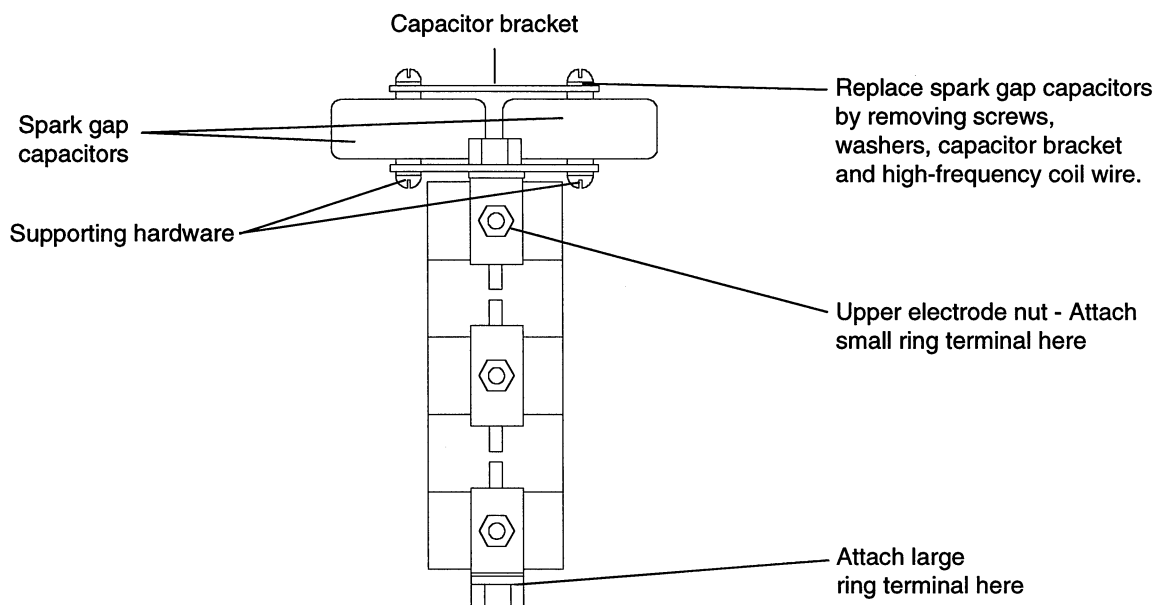

Figure 4 Spark Gap Assembly Connections and Capacitor Replacement
- Twist the wires on the secondary side of the transformer 2 turns and attach the large ring terminal to the bottom of the spark gap assembly, and the small ring terminal to the upper electrode nut of the spark gap assembly. See Fig. 4. Secure wires using hardware saved in step 3.